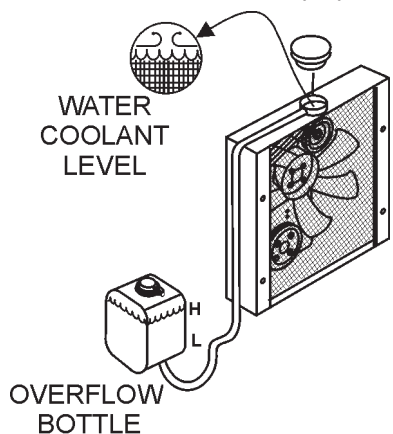

Figure 18. Radiator Coolant
1. Remove the radiator cap, and check the cooling water level inside the radiator (Figure 18).